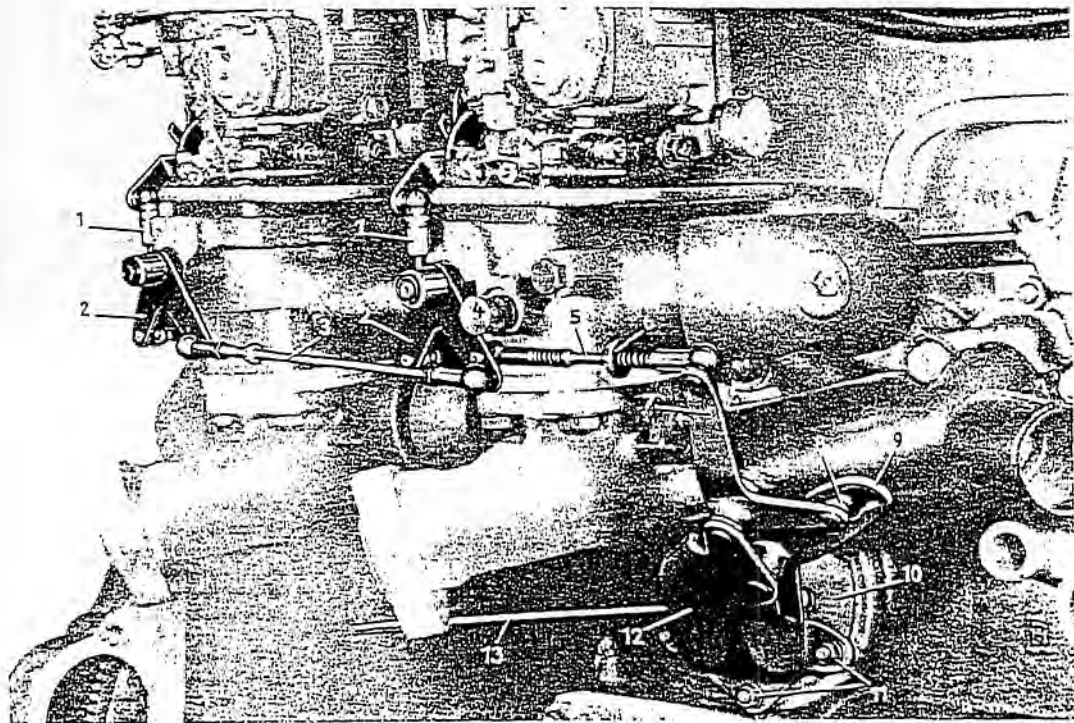

Fig. 00-13/4
4. Adjust the spring-loaded push rods (8) or (1).
On engines without progressive linkage adjust the eccentric screw (3) in such a way that the slot of the eccentric screw is at right angles to the front relay lever and the eccentric part points upward (see Figs. 00-13/2 or 00-13/3).
On engines with progressive linkage screw in a fillister head screw M 8 DIN 85 (4) with a 16 mm head. If this should not be available, make an M 8 screw with a 16 mm \varnothing cylindrical head (4) (see Fig. 00-13/4).
In the case of the progressive linkage the quadrant lever (9) serves as a stop so that a stop bolt on the intake pipe is no longer required (Fig. 00-13/4).